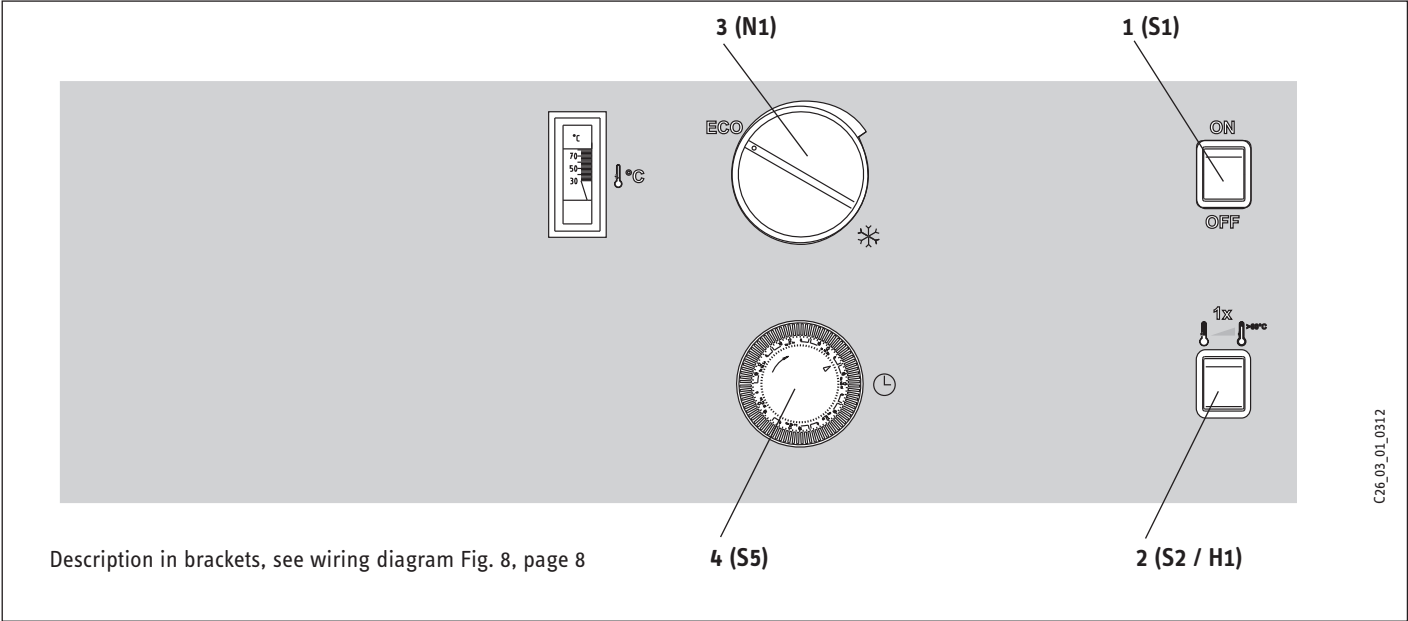

Fig. 1
The water inside the cylinder will be heated to 55 °C by the electrical supplementary heater, which is controlled by the programmable time switch, subject to the heating period being long enough. This enables the option of making greater mixing water volumes available at certain times. At all other times, the water will be heated to the temperature selected on the controller (see page 4, Fig. 1, item 3).